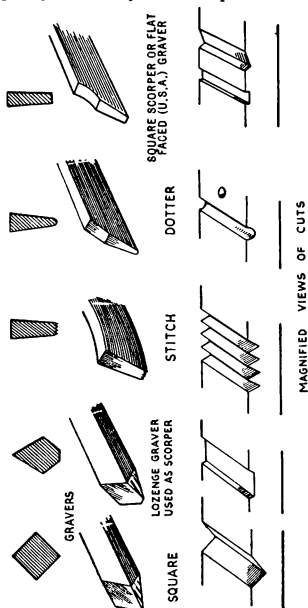

Fig. 8—Types of graver, their sections and the cuts they make.
$\frac{1}{2}$  dozen shading, or stitch, gravers (D threads, 2, 4, 6, 8, 10, and 12 widths) (Fig. 8),
$\frac{1}{2}$  dozen plain flat gravers (2, 4, 6, 8, 10, and 12 widths) (Fig. 8),
*Lozenge graver* : This is so called because the cross-section is the shape of a lozenge. (For gravers and cuts see Fig. 8).